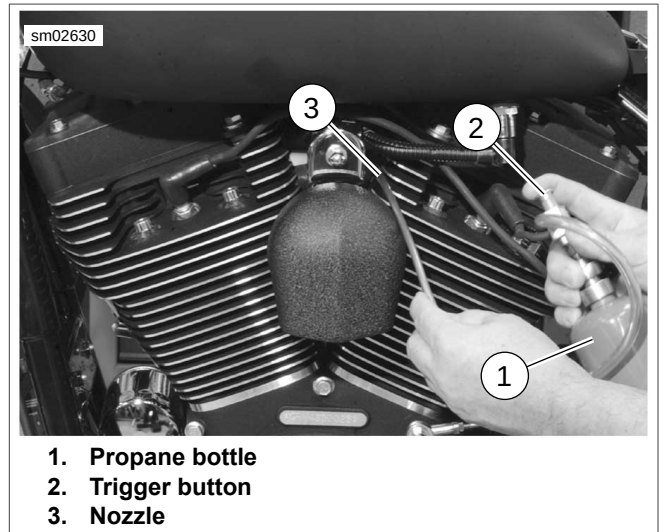

Figure 4-52. Checking for Leaks
3. See Figure 4-52. Aim nozzle (3) toward possible sources of leak such as intake manifold mating surfaces.
4. Press and release trigger button (2) to dispense propane. Tone of engine will change when propane enters source of leak. Repeat as necessary to detect leak.